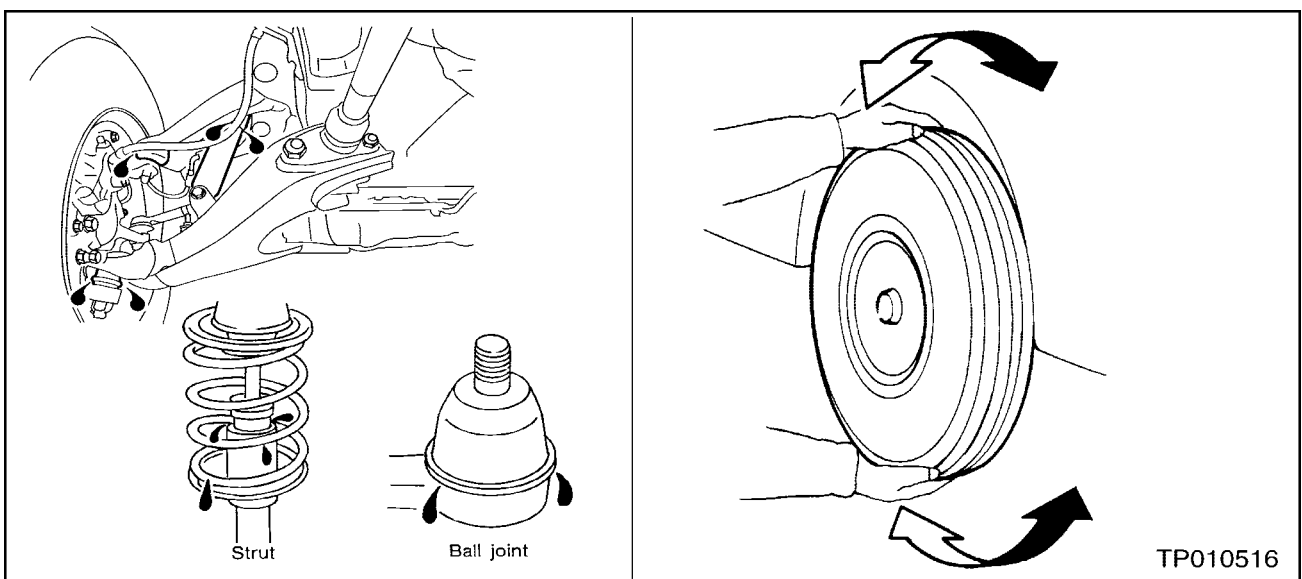

Figure 3
1. Shake each wheel to check for excessive play, then rotate each wheel to check for excessive noise (see Figure 3).
- Where applicable, check suspension ball joint for grease leakage and ball joint dust cover for cracks or other damages (see Figure 3).
- Check strut (shock absorber) for oil leakage or other damages (see Figure 3).